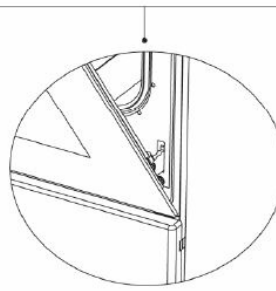

Figure 9.1
- Later, close the opened oven door so that it will be in a position to contact with the hinge lock as in Figure 9.1.